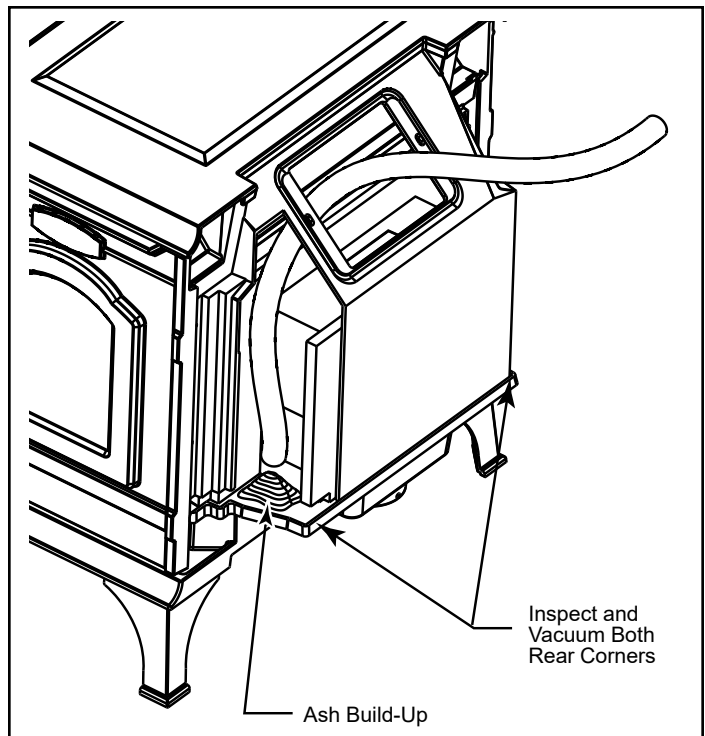

Figure 39 - Inspect and clean out ash accumulation on either side of the non-catalytic combustion system.
- Inspect for and remove ash build-up behind the combustion package. This should be done in conjunction with annual cleaning of the chimney connector since this inspection is most conveniently done through the flue collar opening. Inspect the passages to either side of the combustion package (a mirror will be helpful) and vacuum away ash using a flexible vacuum hose inserted into each passage. Care should be taken not to damage the white fibrous material in this rear chamber. (Figure 39)